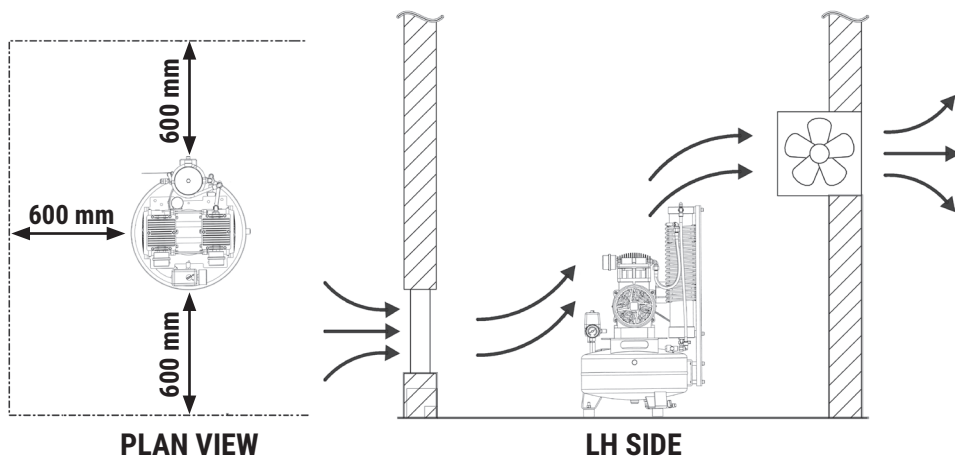

Fig. 2
**IN ORDER TO ENSURE THAT THE AUTHORIZED OPERATORS OCCUPY THE WORK POSITIONS EXPECTED, IT IS MANDATORY TO ENSURE MINIMUM MEASURES OF POSITIONING AS SHOWN IN FIG. 2. IF THE ROOM TEMPERATURE, WHERE THE MACHINE HAS BEEN PLACED, EXCEEDS THE LIMITS SPECIFIED IN PAR. "TECHNICAL SPECIFICATIONS", IT IS COMPULSORY TO INSTALL A SUITABLE ADDITIONAL FAN, AS SHOWN IN FIG. 2.**